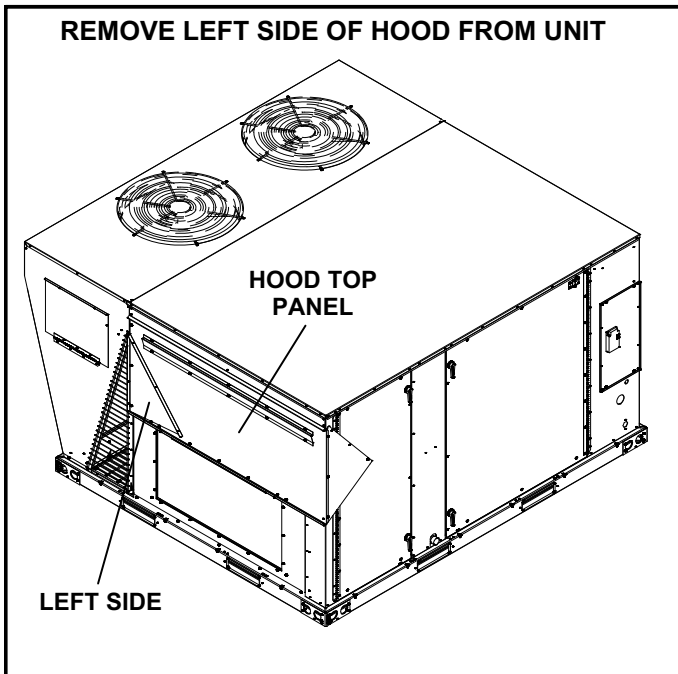

FIGURE 10
- 1- Remove left side from hood top panel. See figure 10.